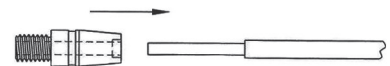

Fig. 2A End Ferrule Repair
6. Apply drop of adhesive to fiberglass core end (in case of a splice, do one end at a time as in Fig. 2A) and spread over core with toothpick or nail.
7. Twist ferrule as you insert rod (Fig. 2A and 2B). Clean off excess glue. Return unused materials to kit.